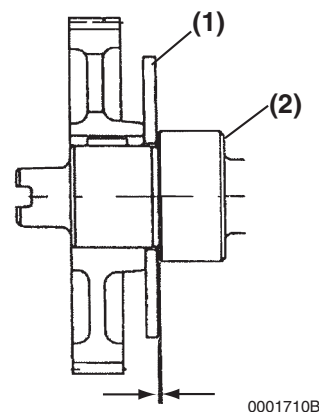

Figure 6-93
- **Method B:** Use a feeler gauge to measure the clearance between the thrust plate (Figure 6-93, (1)) and front camshaft bearing (Figure 6-93, (2)). See Thrust Bearing on page 6-14 for the service limit.